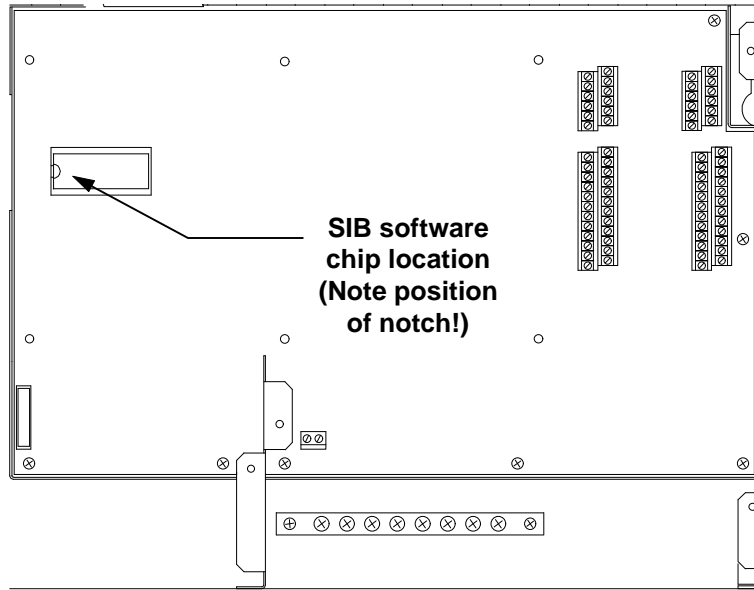

Figure 4 SIB Software Chip Removal and Replacement
9. To install software in the replacement SIB, locate the SIB software chip on the circuit board. The SIB software chip is the 28 pin socketed chip with a white label on top. It is located in the top left hand section of the board. Refer to *figure 4*.